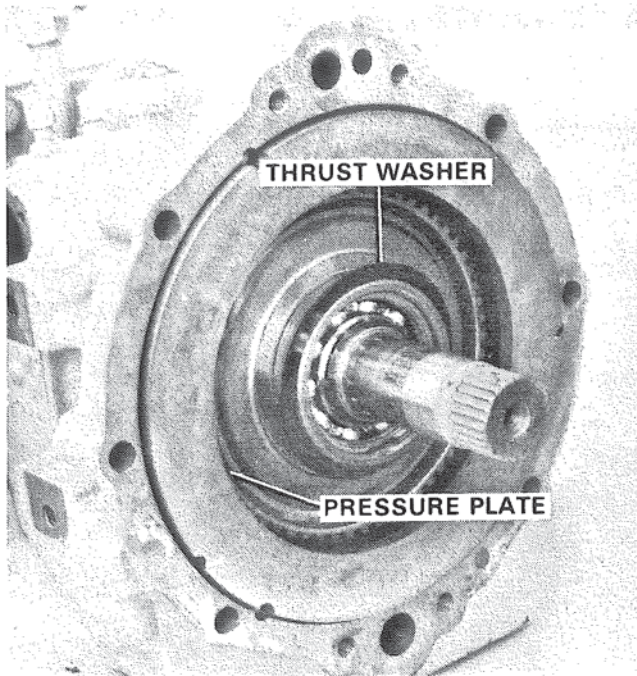
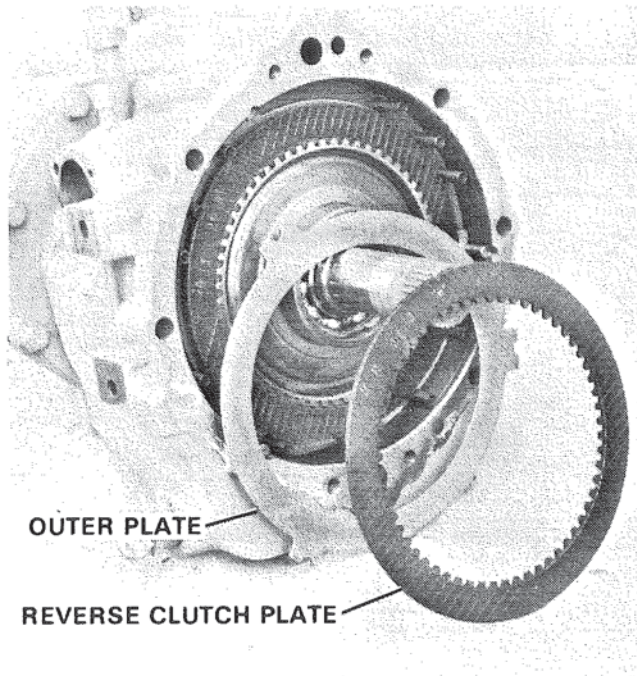

Figure 18. Removing Thrust Washer and Reverse Clutch Pressure Plate.
Figure 19. Removing Reverse Clutch Plates.
4. Thrust washer can now be lifted from position shown in Figure 18.
5. Remove clutch pressure plate, Figure 18, and then lift out the remaining clutch plates. Figure 19.